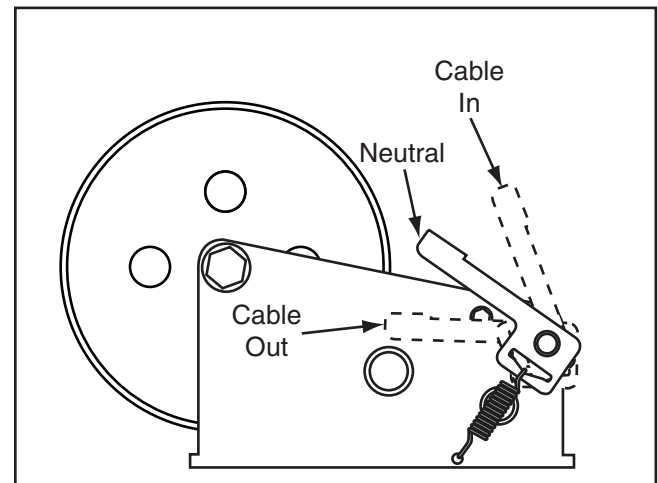

Figure 3. Ratchet control lever.
2. Move the ratchet control lever to one of the three positions shown below (**Figure 3**).